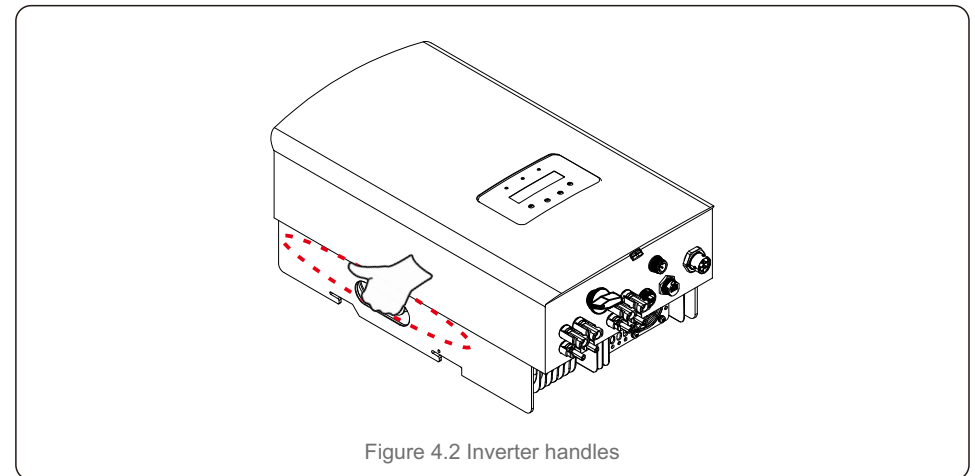

Figure 4.2 Inverter handles
2.Open the carton, then handle both sides of inverter through the area denoted dotted line. ( see figure 4.2).